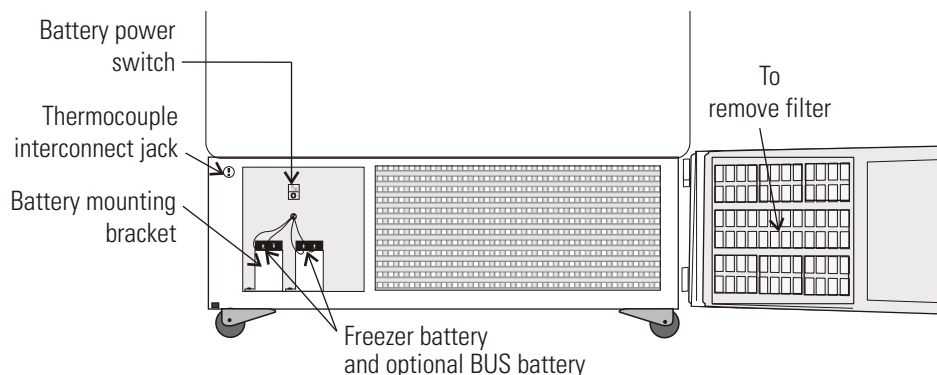

Figure 4-1. Component Locations
2. Locate the filter material behind the grille on the door. See Figure 4-1. Grasp the middle of the filter material and gently pull out to remove.
3. Turn off the battery switch (O). See Figure 4-1.